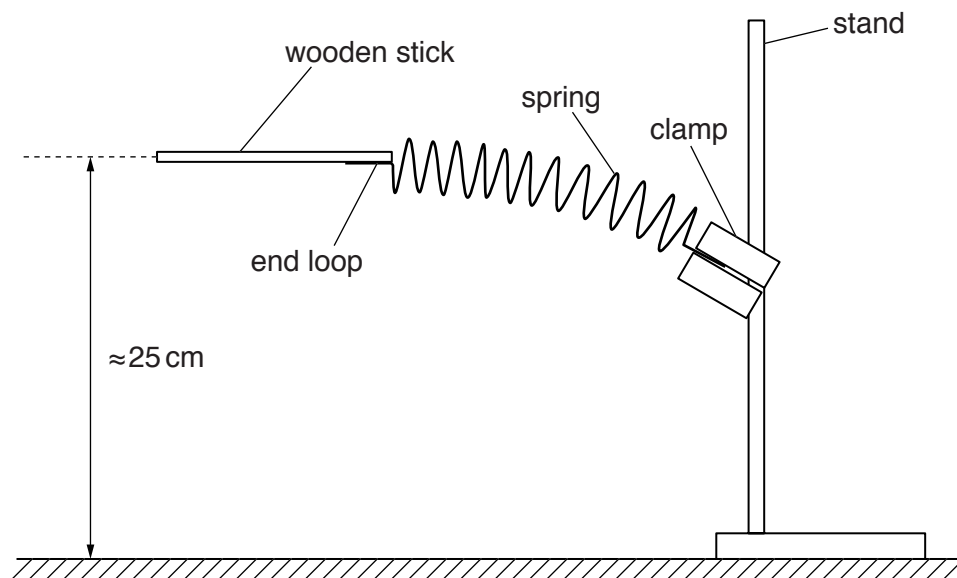

Fig. 2.2
- 2 The spring should be stretched so that it is permanently deformed. When the force is removed, there should be spaces of approximately 2 mm between the coils. The wooden stick should be attached (e.g. with glue or tape) to one of the end loops. The other end loop should be clamped as shown in Fig. 2.2, with the wooden stick horizontal and approximately 25 cm above the bench.